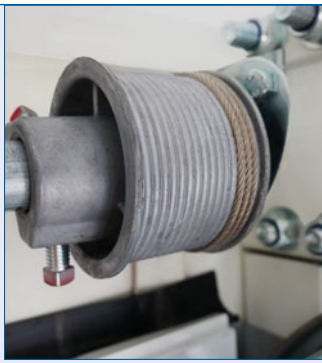

Fig. 2.5.1
- Loosen the two set screws of the left cable reel and coil the hook ed-in rope. It must be located exactly in the screw-thread shaped grooves of the drum. Rotate the reel until the rope is tightly tensioned and forms a vertical line (Fig. 2.5.1).
- To prevent the rope from jumping over at the rope reel (Fig. 2.5.1), it must unwind towards the centre of the rear frame. If the rope unwinds at a 90° angle, it will jump over. When the roller shutter is closed, the rope runs at a slight angle < 90° from the upper edge towards the centre of the rear frame (Fig. 2.5.2).